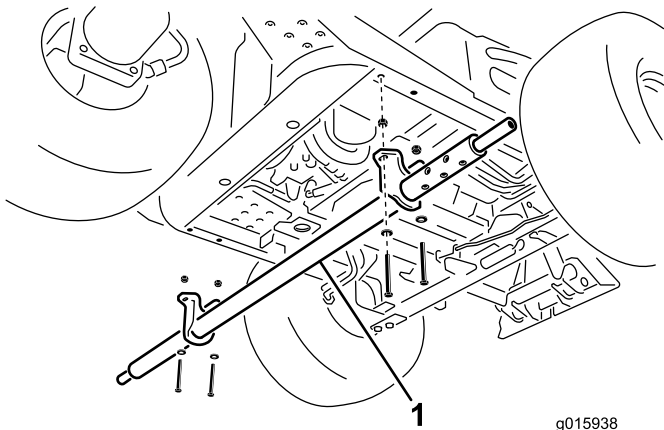

Figure 11
1. From the left side of the machine, slide the cross tube assembly under the machine, aligning the mounting bracket holes with the holes in each frame tube (Figure 11).
2. Secure the cross tube mounting brackets to the frame tubes with 4 screws (3/8 x 3 inch), flat washers, and locknuts (3/8 inch) (Figure 11).